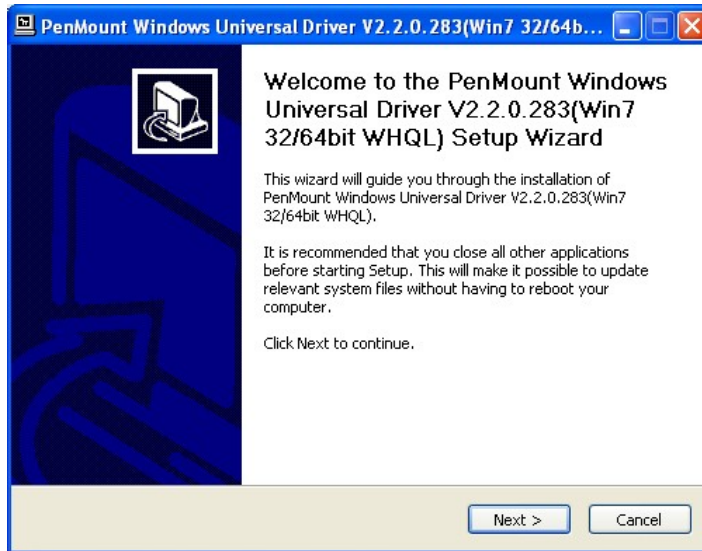

Figure 5-1: Welcome Screen
Step 4: Click the driver file name on the page and you will be prompted with the following window. You can download the entire ISO file (❶), or click the small arrow to find an individual driver and click the file name to download (❷).
Step 6: The Welcome screen in **Figure 5-1** appears.